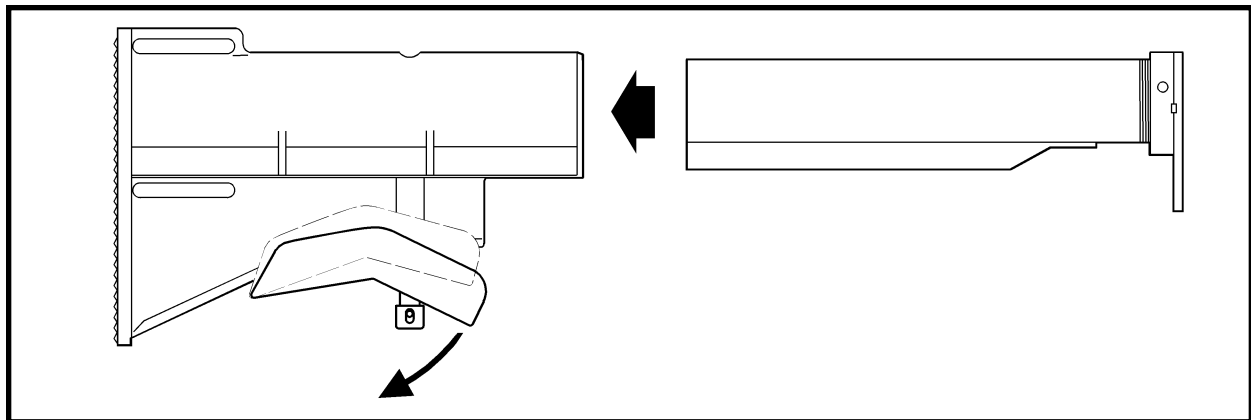

Figure 3-2-38 Removing the Sliding Buttock Assembly
- b. Cover the lower half of the lower receiver assembly and butt assembly where the two meet, to prevent loss of the takedown pin detent (4) and takedown pin detent spring (3);
- c. Remove the butt assembly (2) rearward from the lower receiver assembly; and
- d. Remove the takedown pin (5) from the lower receiver.
38. **SLIDING BUTTSTOCK.** See figure 3-2-38 and remove the sliding butt as follows: